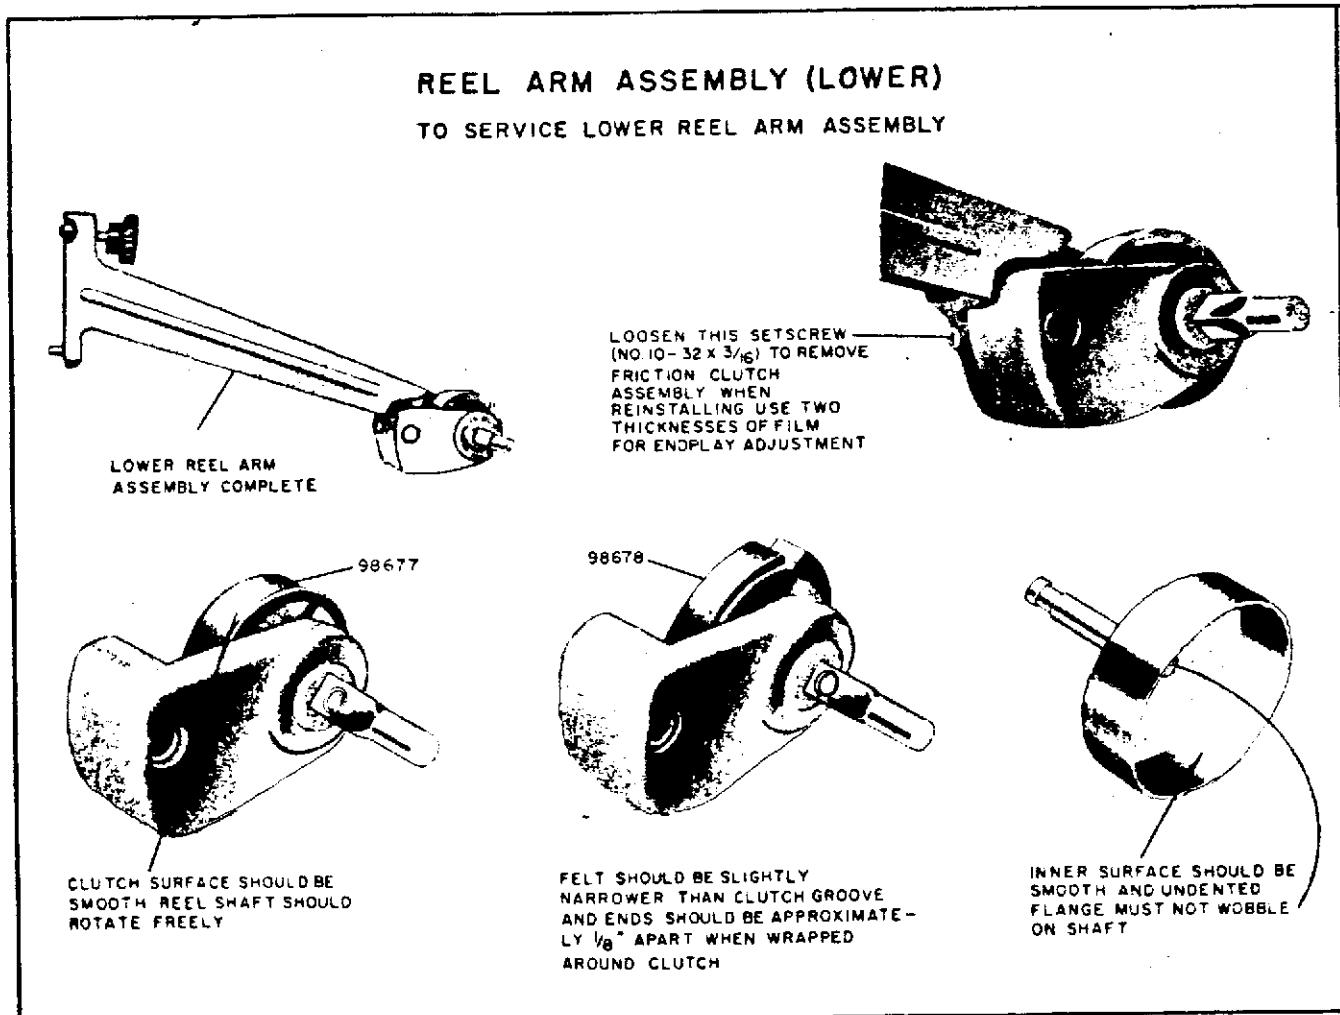

Figure 11—Lower Reel Arm Assembly
4. *Reel Arm.* Refer to figure 11 for maintenance information on the lower reel arm assembly.